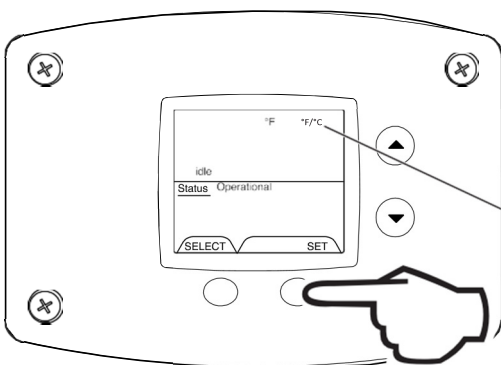

Fig. 57
2. Press 'Set' button to change temperature format. '°F/°C' symbol will flash in the water heater display (Fig. 57).